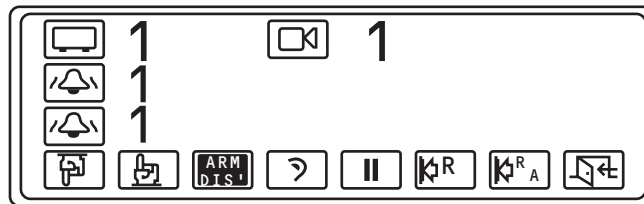

Figure 74. Triggered Alarm Menu
1. Select  from the Main Menu. The triggered alarm appears on line 3 on the LCD display. Refer to Figure 74.